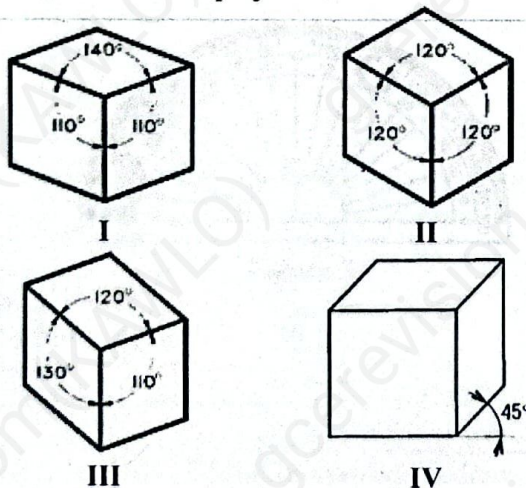

Figure 12
19. Which of the following boxes drawn in figure 12 below is in isometric projection?